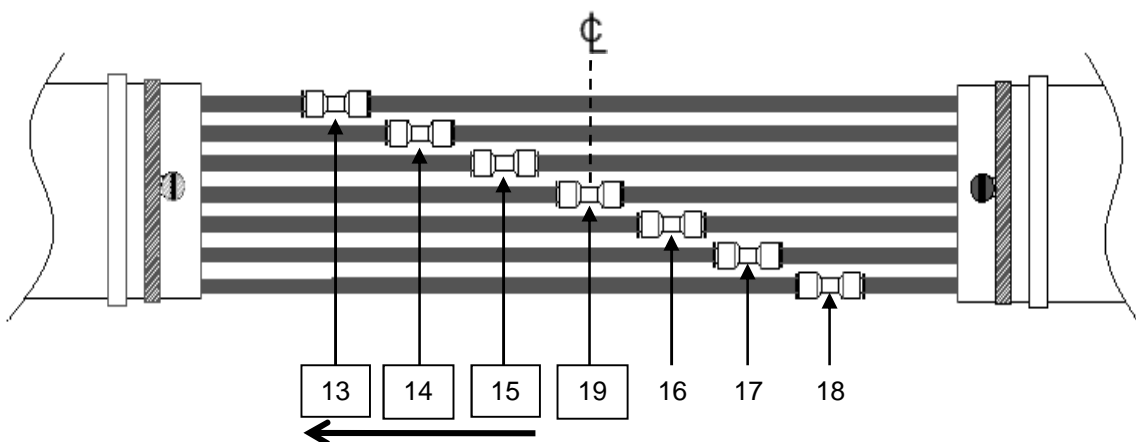
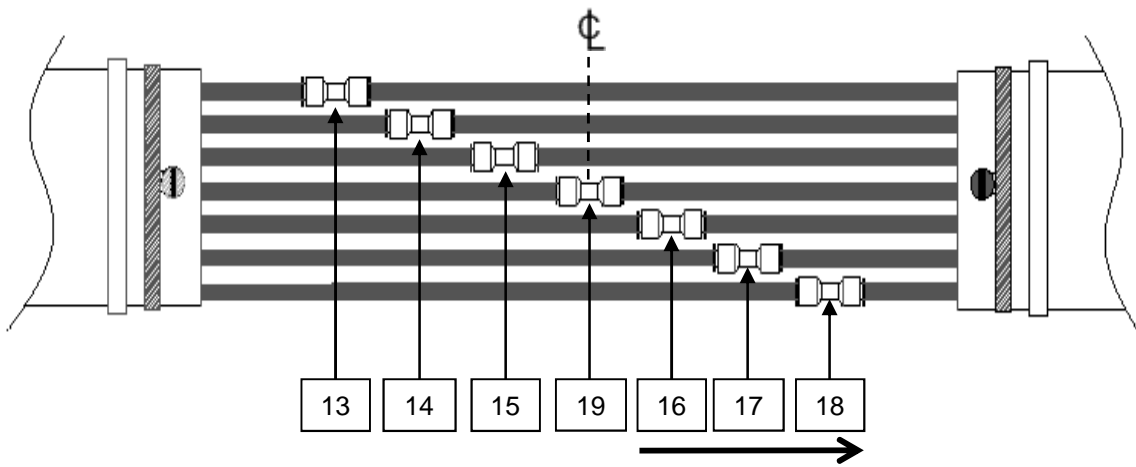

Figure 12
Figure 13
10.9 Locate and lay Tube 15 of first tube cable next to installed Tube 19 Coupling. **See Fig. 12.**
10.17 Repeat this procedure for remaining inner ring Tubes 13 and 14 and Tubes 16 through 18. Again, the "key" is to start in the middle and work towards the ends. **See Fig. 12 and Fig. 13.**